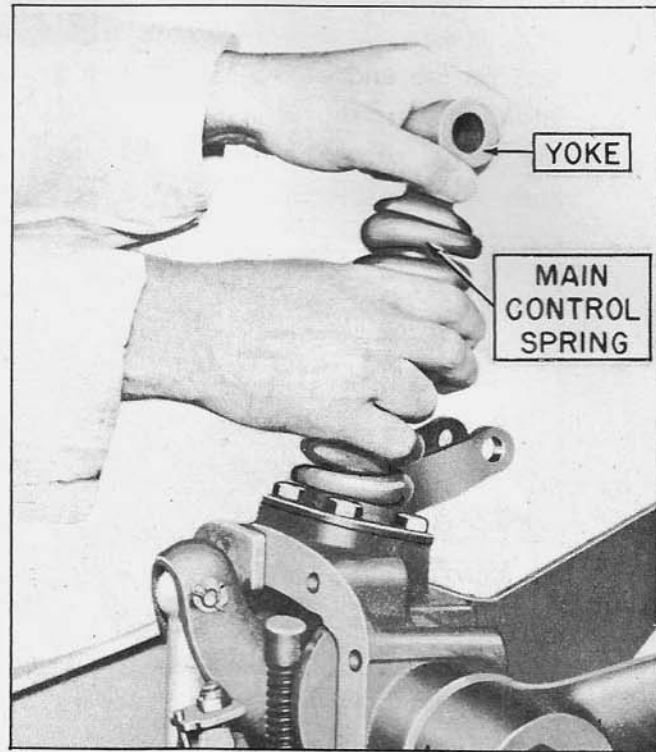

Figure 3
5. Set tension on tractor main control spring by turning yoke in or out slightly until the spring has no end play and can be turned with the thumb and two fingers, as shown in Figure 3.